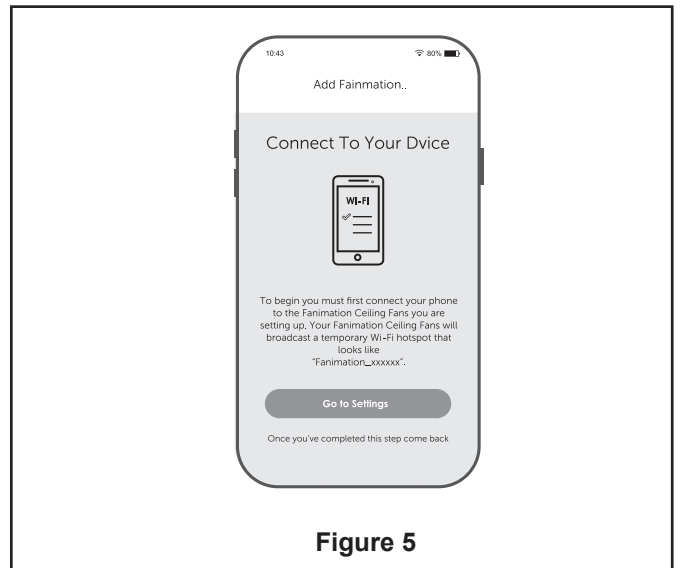

Figure 5
- ☐ **7.** To set the remote code in the same positions as the receiver, use a small screwdriver or ball point pen (neither included) to slide dip switches firmly up or down. (Figure 5)
- ☐ 5. At this stage, your ceiling fan WiFi receiver should be installed and within range of your WiFi router. With the APP open, select "add device". (Figure 5)